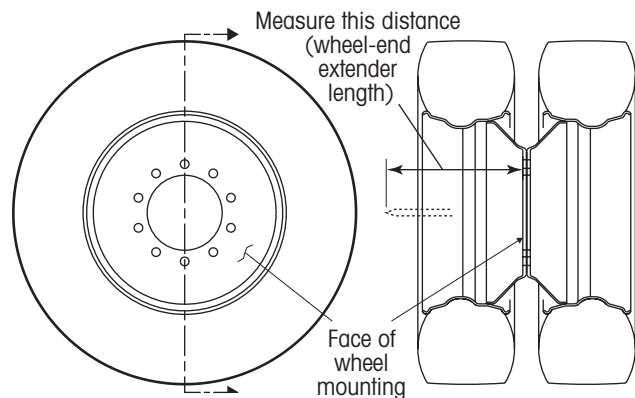

Figure 21: Measuring wheel-end extender length
- A. **Measure** the length of one wheel-end extender. **Measure** from the face of the wheel mounting to the tip of the wheel-end extender (Figure 21).